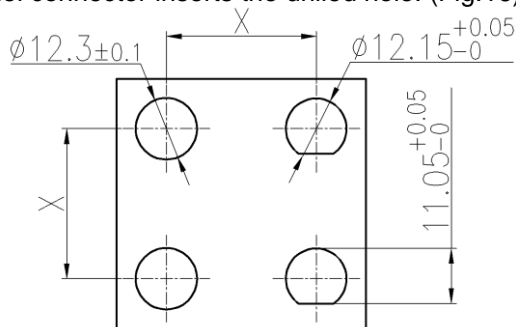

Figure 15
- ✧ 面板钻孔。钻孔的建议尺寸如图 15，所有钻孔边缘的毛刺需要清除。我们建议，无论水平或垂直结构，间距值 (X) 至少要有 25mm(如图 15)
Drill holes at the panel wall. The proposed size of the borehole is shown in Figure 15. We recommend that the spacing value (X) is at least 25mm for both horizontal and vertical structures (Figure 15).